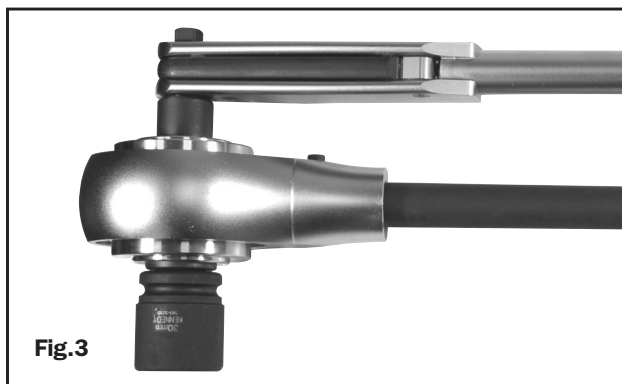

Fig.3
5. Fit your chosen drive tool for example a torque wrench to the female input square drive (4). Also fit a suitable sized socket onto the male output square drive (5). (See fig 3)